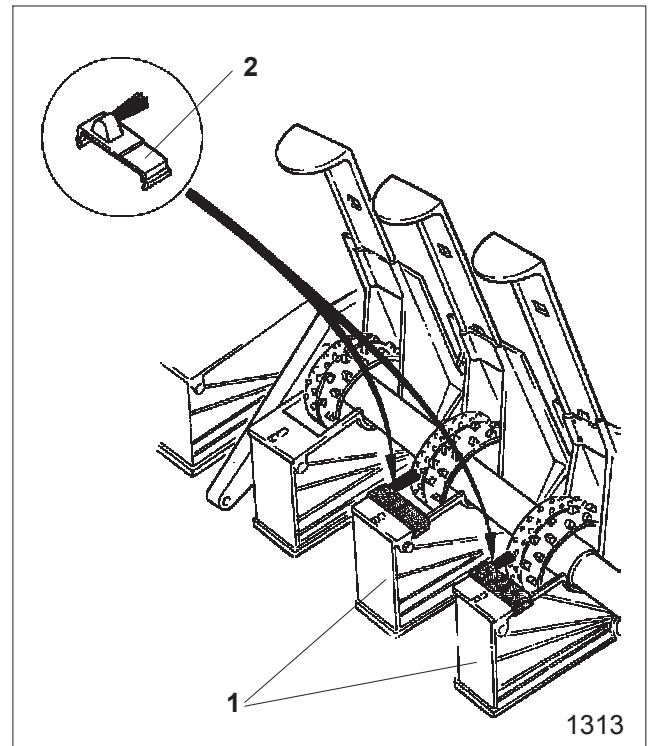

Fig. 18.25
- Mark the new tramline seeding wheels (Fig. 18.25/1) by pushing the fine seeding metering wheel brushes (Fig. 18.25/2) onto the new tramline seed housing. To create a tramline, up to three and in exceptional cases up to 4 or 5 seeding wheels are switched off.